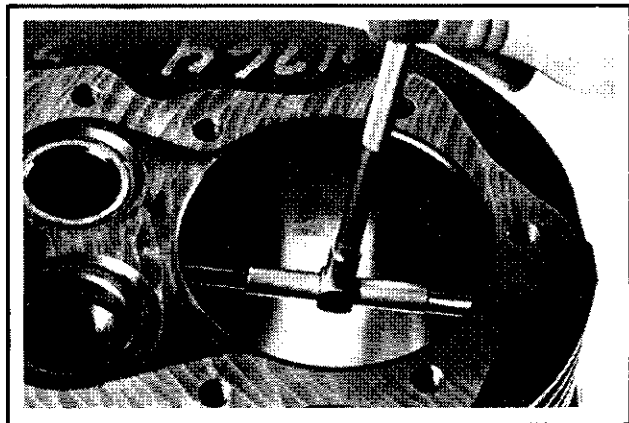

Figure 11-3. Measuring Cylinder Bore.
4. After resizing, check the bore for roundness, taper, and size. Use an inside micrometer, telescoping gauge, or bore gauge to take measurements (refer to Figure 11-3). The measurements should be taken at three locations in the cylinder—at the top, middle, and bottom. Two measurements should be taken (perpendicular to each other) at each of the three locations.